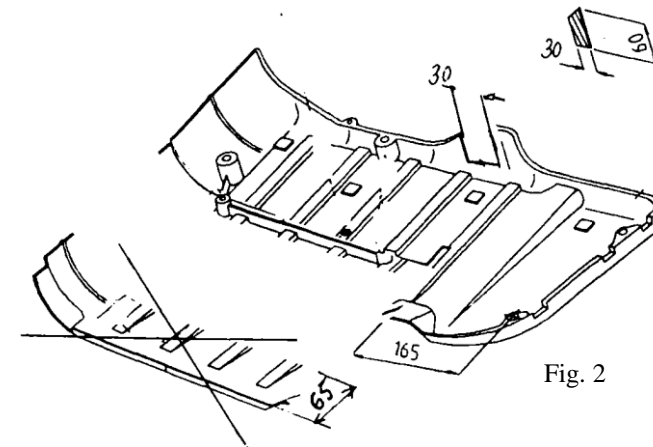

Fig. 2
- Drill again holes only from inside boot using bit $\varnothing 22\text{mm}$. To drilled holes put distance sleeves $\varnothing 22$, $L=37\text{mm}$ (pos. 9), and top put fish-plates (pos. 6) as shown on the drawing. Insert bolts $M10 \times 70\text{mm}$ (pos. 10).
- On prominent bolt put main bar of the towing hitch (pos. 1) and fix loosely.
- Fix side brackets (pos. 4 and 5) as show on the drawing using bolts $M10 \times 35\text{mm}$ (pos. 11) through holes A. Fix by bolts $M10 \times 35\text{mm}$ (pos. 11) through holes B with jibs (pos. 7 and 8). Jibs place inside chassis frames through longitudinal holes.
- Fix body of the automat and place tow-ball according to supplied instruction. Note! Remember to place socket plate (pos. 3) as shown on the drawing 1.
- Reassemble the cover after cut fragment as shown on figure 2.